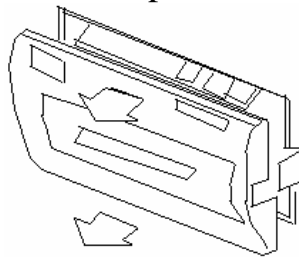

Fig.2-4
- (1) Take down the front cover of the printer, as Fig.2-4 shows: